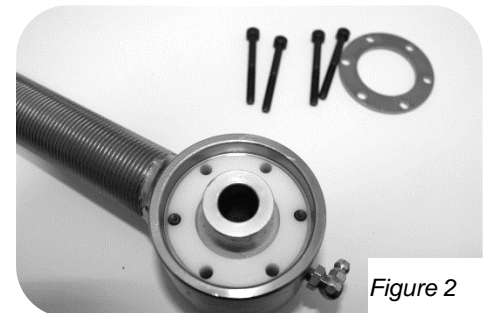

Figure 2
17. Place the ball in the race (inside the flex end). The ball should perfectly fit the contour of the race. (Figure 2)